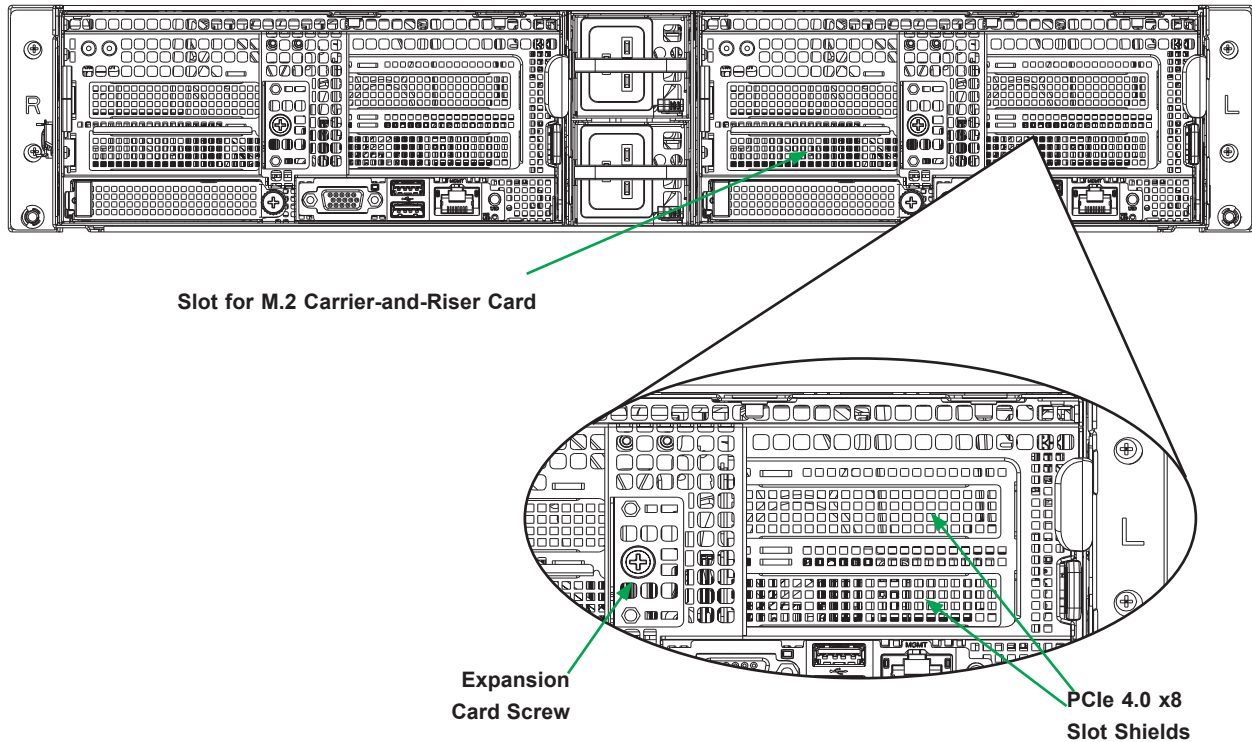

Figure 3-12. Expansion Card Slots
1. If necessary, power down the node, remove it from the chassis, remove the expansion card screw (See Figure 3-12) and set aside.
2. Remove the expansion card screw (See Figure 3-12) and set aside. Remove the PCI slot shield.